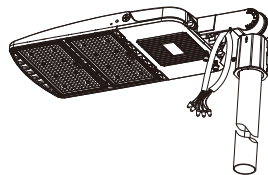

Fig 21
Step 6 : pull them out together with fixture's AC wire from junction box , connect the fixture's AC input wires to pole-wires with connectors, L to L(Black), N to N(White),PE to PE (Green); If need to connect dimming wires from the pole to fixture, please also use the connector to connect "Dim +"(Purple) to "Dim +"(purple), "Dim -"(Pink) to "Dim-"(pink), as fig 21.